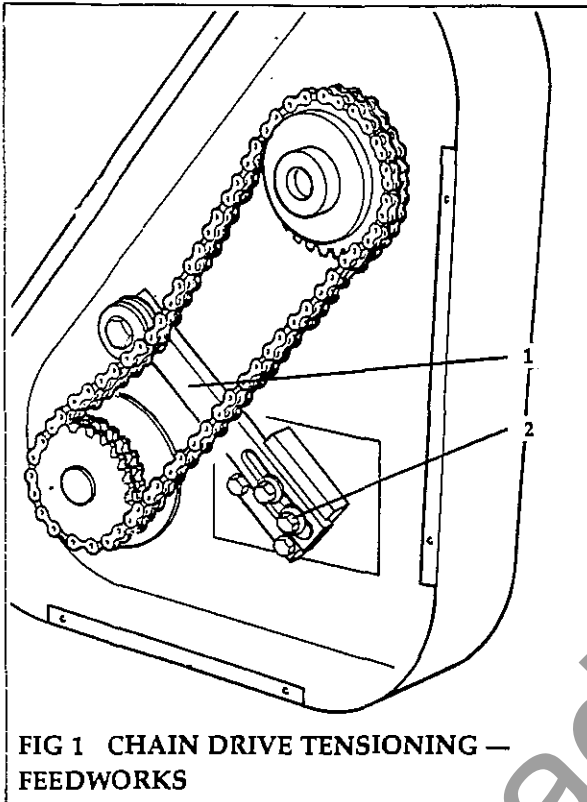
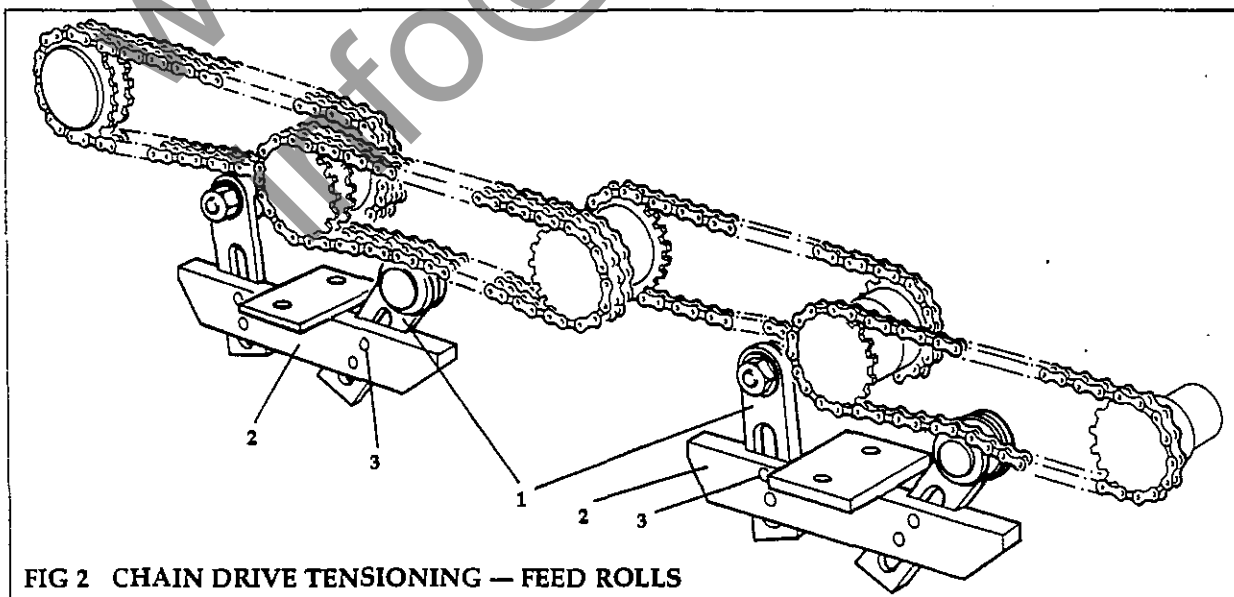

FIG 1 CHAIN DRIVE TENSIONING — FEEDWORKS
FIG 2 CHAIN DRIVE TENSIONING — FEED ROLLS
Chain Drive Tensioning (Fig.1, Fig.2)
- (1) Remove the drive cover.
- (2) Check chain for adjustment or wear. Adjustment is correct if no slack is present in the chain.
- (3) To adjust: Reposition the chain tensioner arm (1), by slackening the two securing screws (2) and sliding the arm with roller or sprocket toward the chain. Take up any slack in the chain, Retighten screws (2) after adjustment, (see Fig 1).
- (3) To adjust: Reposition the chain runner/tensioner block (1) in relation to the support plate (2), by resetting the two support screws (3), after releasing locknuts (4). Take up slack in the chain. Retighten lock nuts (4) after setting, (see Fig 2).